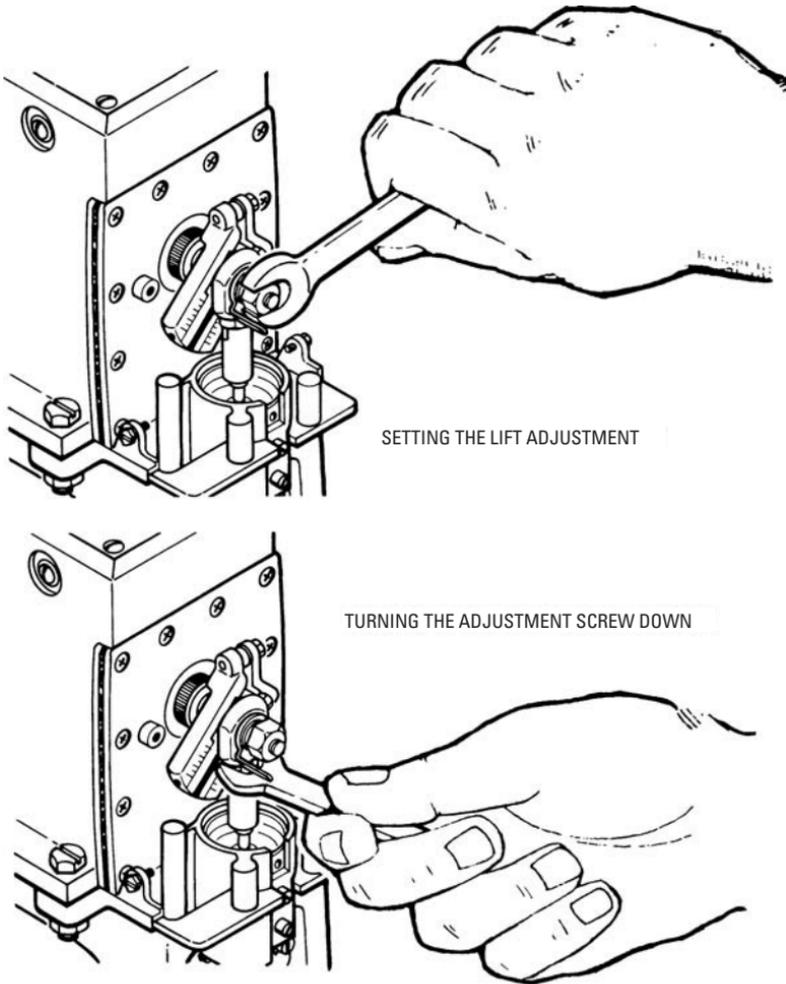

Figure 9-43 Setting the lift adjustment to equal the rated lift of the valve it is used with. (Courtesy Honeywell)
1. Set the lift adjustment on the crank arm to equal the rated lift of the valve (see Figure 9-43).
2. With the motor running closed, turn the adjustment screw down (see Figure 9-43) until the valve is closed and washer A (see Figure 9-44) has been pushed down 1/16 inch as indicated on the scale marks.